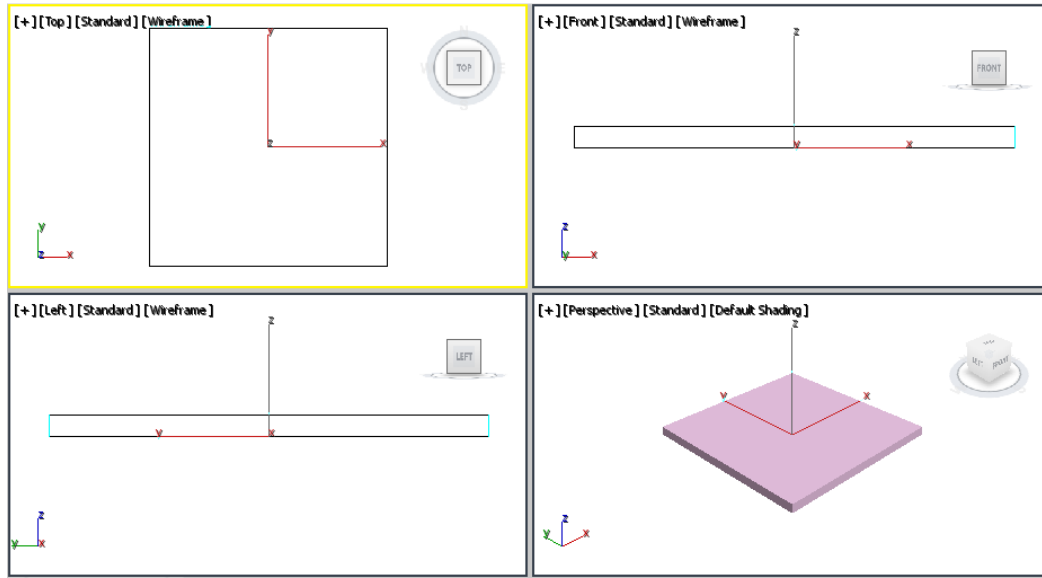

Figure 5-3 The *Top* extruded by 10 units
3. In the **Parameters** rollout, set the value **10** in the **Amount** spinner and press the ENTER key; *Top* is extruded by 10 units, as shown in Figure 5-3.